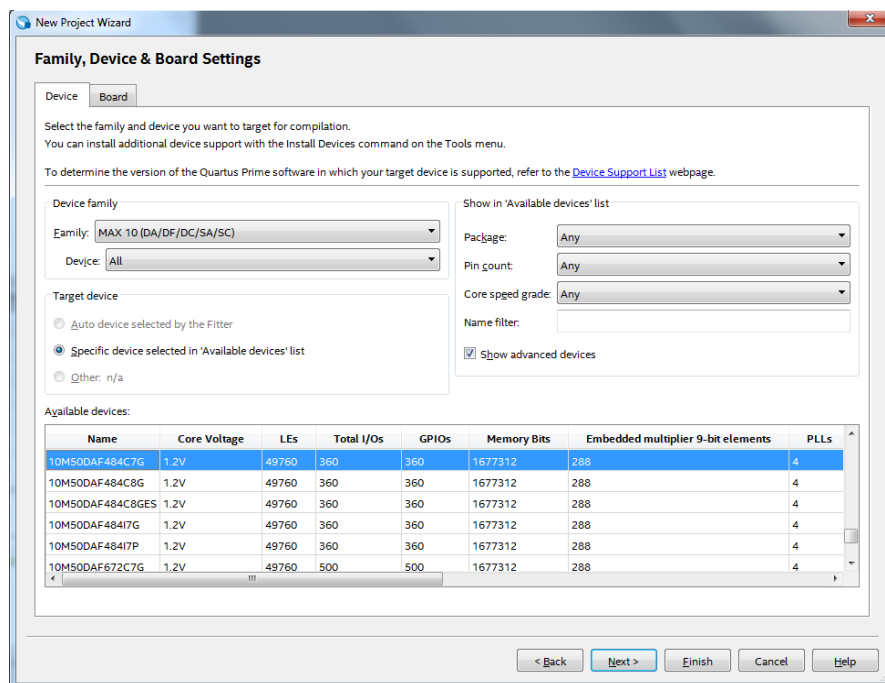

Figure 1 Choosing the Device Family and Device
- Under the Device family section, select **MAX 10 (DA/DF/DC/SA/SC)** as the Family. Under the Target device section, select **Specific device selected in 'Available devices' list** and choose the device **MAX10 10M50DAF484C7G** since this is the FPGA on the DE10-LITE board. The screen should look like Figure 1. Click **Next** to move to the next page.